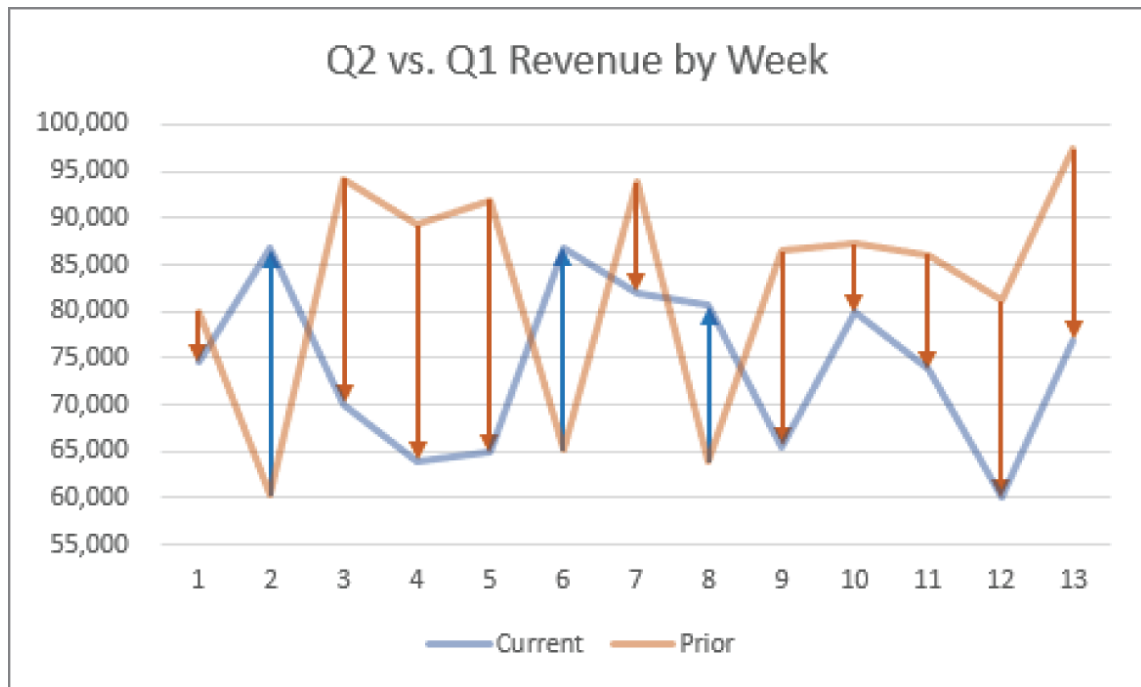

Figure 9.39: The Final Line Chart with Differences
12. Change the chart title. The final chart is shown in Figure 9.39.